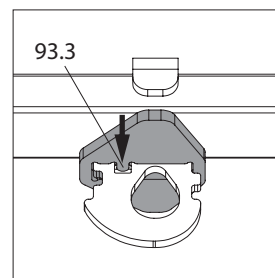

Fig. A11.06g
3. Insert the locking finger (93.3) into the hole. (Fig. A11.06g + A11.06h)